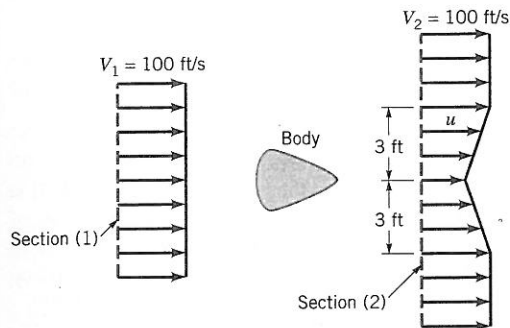

Figure P5.69
5.69 The results of a wind tunnel test to determine the drag on a body (see Fig. P5.69) are summarized below. The upstream [section (1)] velocity is uniform at 100 ft/s. The static pressures are given by $p_1 = p_2 = 14.7$ psia. The downstream velocity distribution, which is symmetrical about the centerline, is given by
where u is the velocity in ft/s and y is the distance on either side of the centerline in feet (see Fig. P5.69). Assume that the body shape does not change in the direction normal to the paper. Calculate the drag force (reaction force in x direction) exerted on the air by the body per unit length normal to the plane of the sketch.